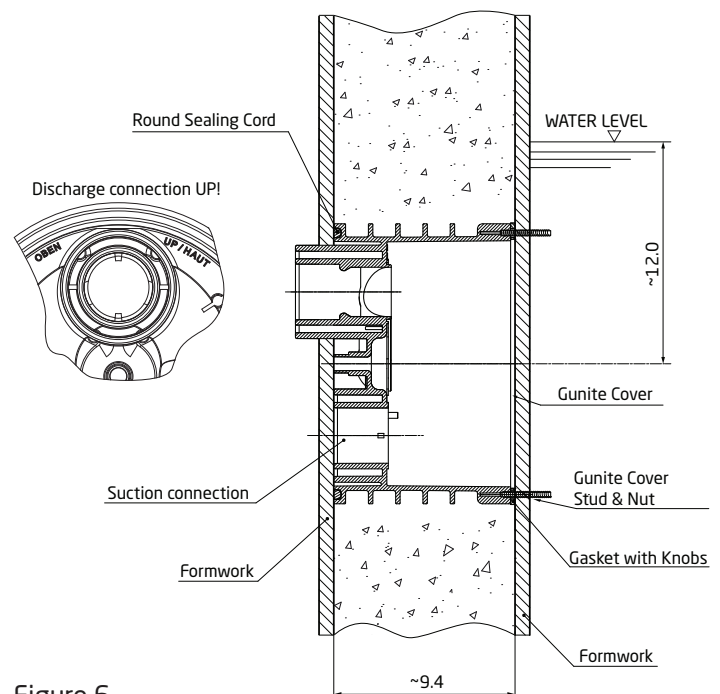

Figure 6
- Place the jet housing between the steel rebar with the back of the jet housing against the hole in the outer wall formwork. Jet housing location is very important (See Figure 6).
- Slide the inner wall formwork over the studs in the jet housing through the pre-drilled holes. Secure the formwork to the jet housing with four (4) M8 washers (part #32) and four (4) M8 nuts (part #33).
- Mount the gunite cover to the front of the jet housing using the four (4) M8 x 80mm studs (part #31), four (4) M8 washers (part #32) and four (4) M8 nuts (part #33). Tape the edge of the gunite cover around the entire jet housing to keep gunite out of threaded inserts and out of the jet housing.
- Place the jet housing between the steel rebar. Jet housing location is very important (See Figure 6).